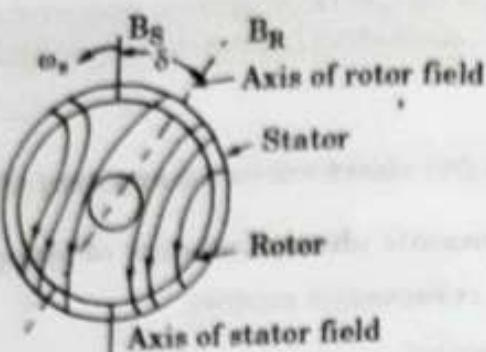

Fig. 5.3.1. Magnetic field in a hysteresis motor.
- Fig. 5.3.1 shows the basic operation of a hysteresis motor. When a 3ϕ supply or a 1ϕ supply is applied to the stator, a rotating magnetic field is produced. This rotating magnetic field magnetizes the rotor ring and induces poles within it.